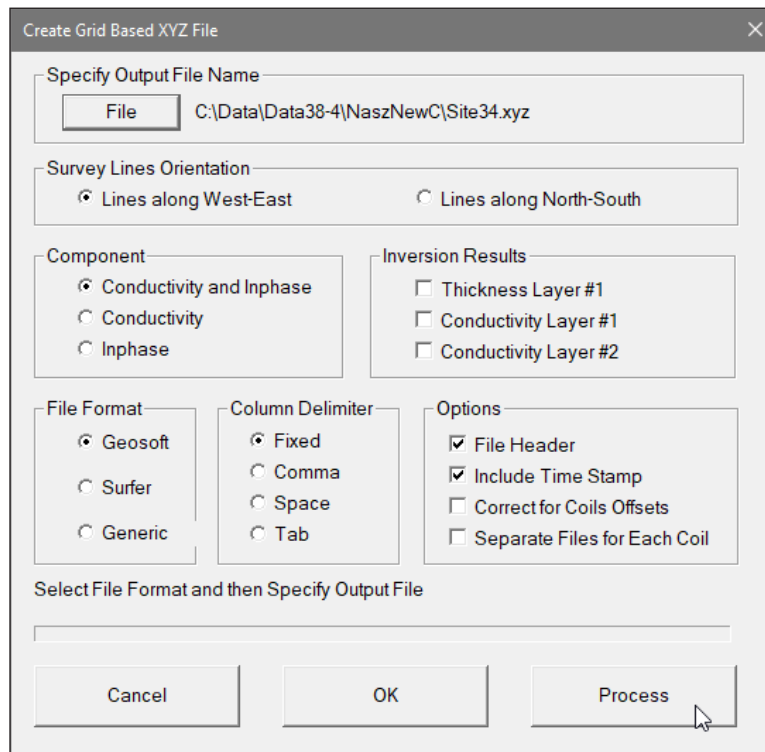

Figure 7.4 Create Grid Based XYZ File dialog after Output File Name is specified
- Specify or select a file name and click **Save**. If the file already exists, you will receive a warning. The selected file name appears at the bottom of the Create Grid Based XYZ File window, and the Process button becomes active (Figure 7.4).